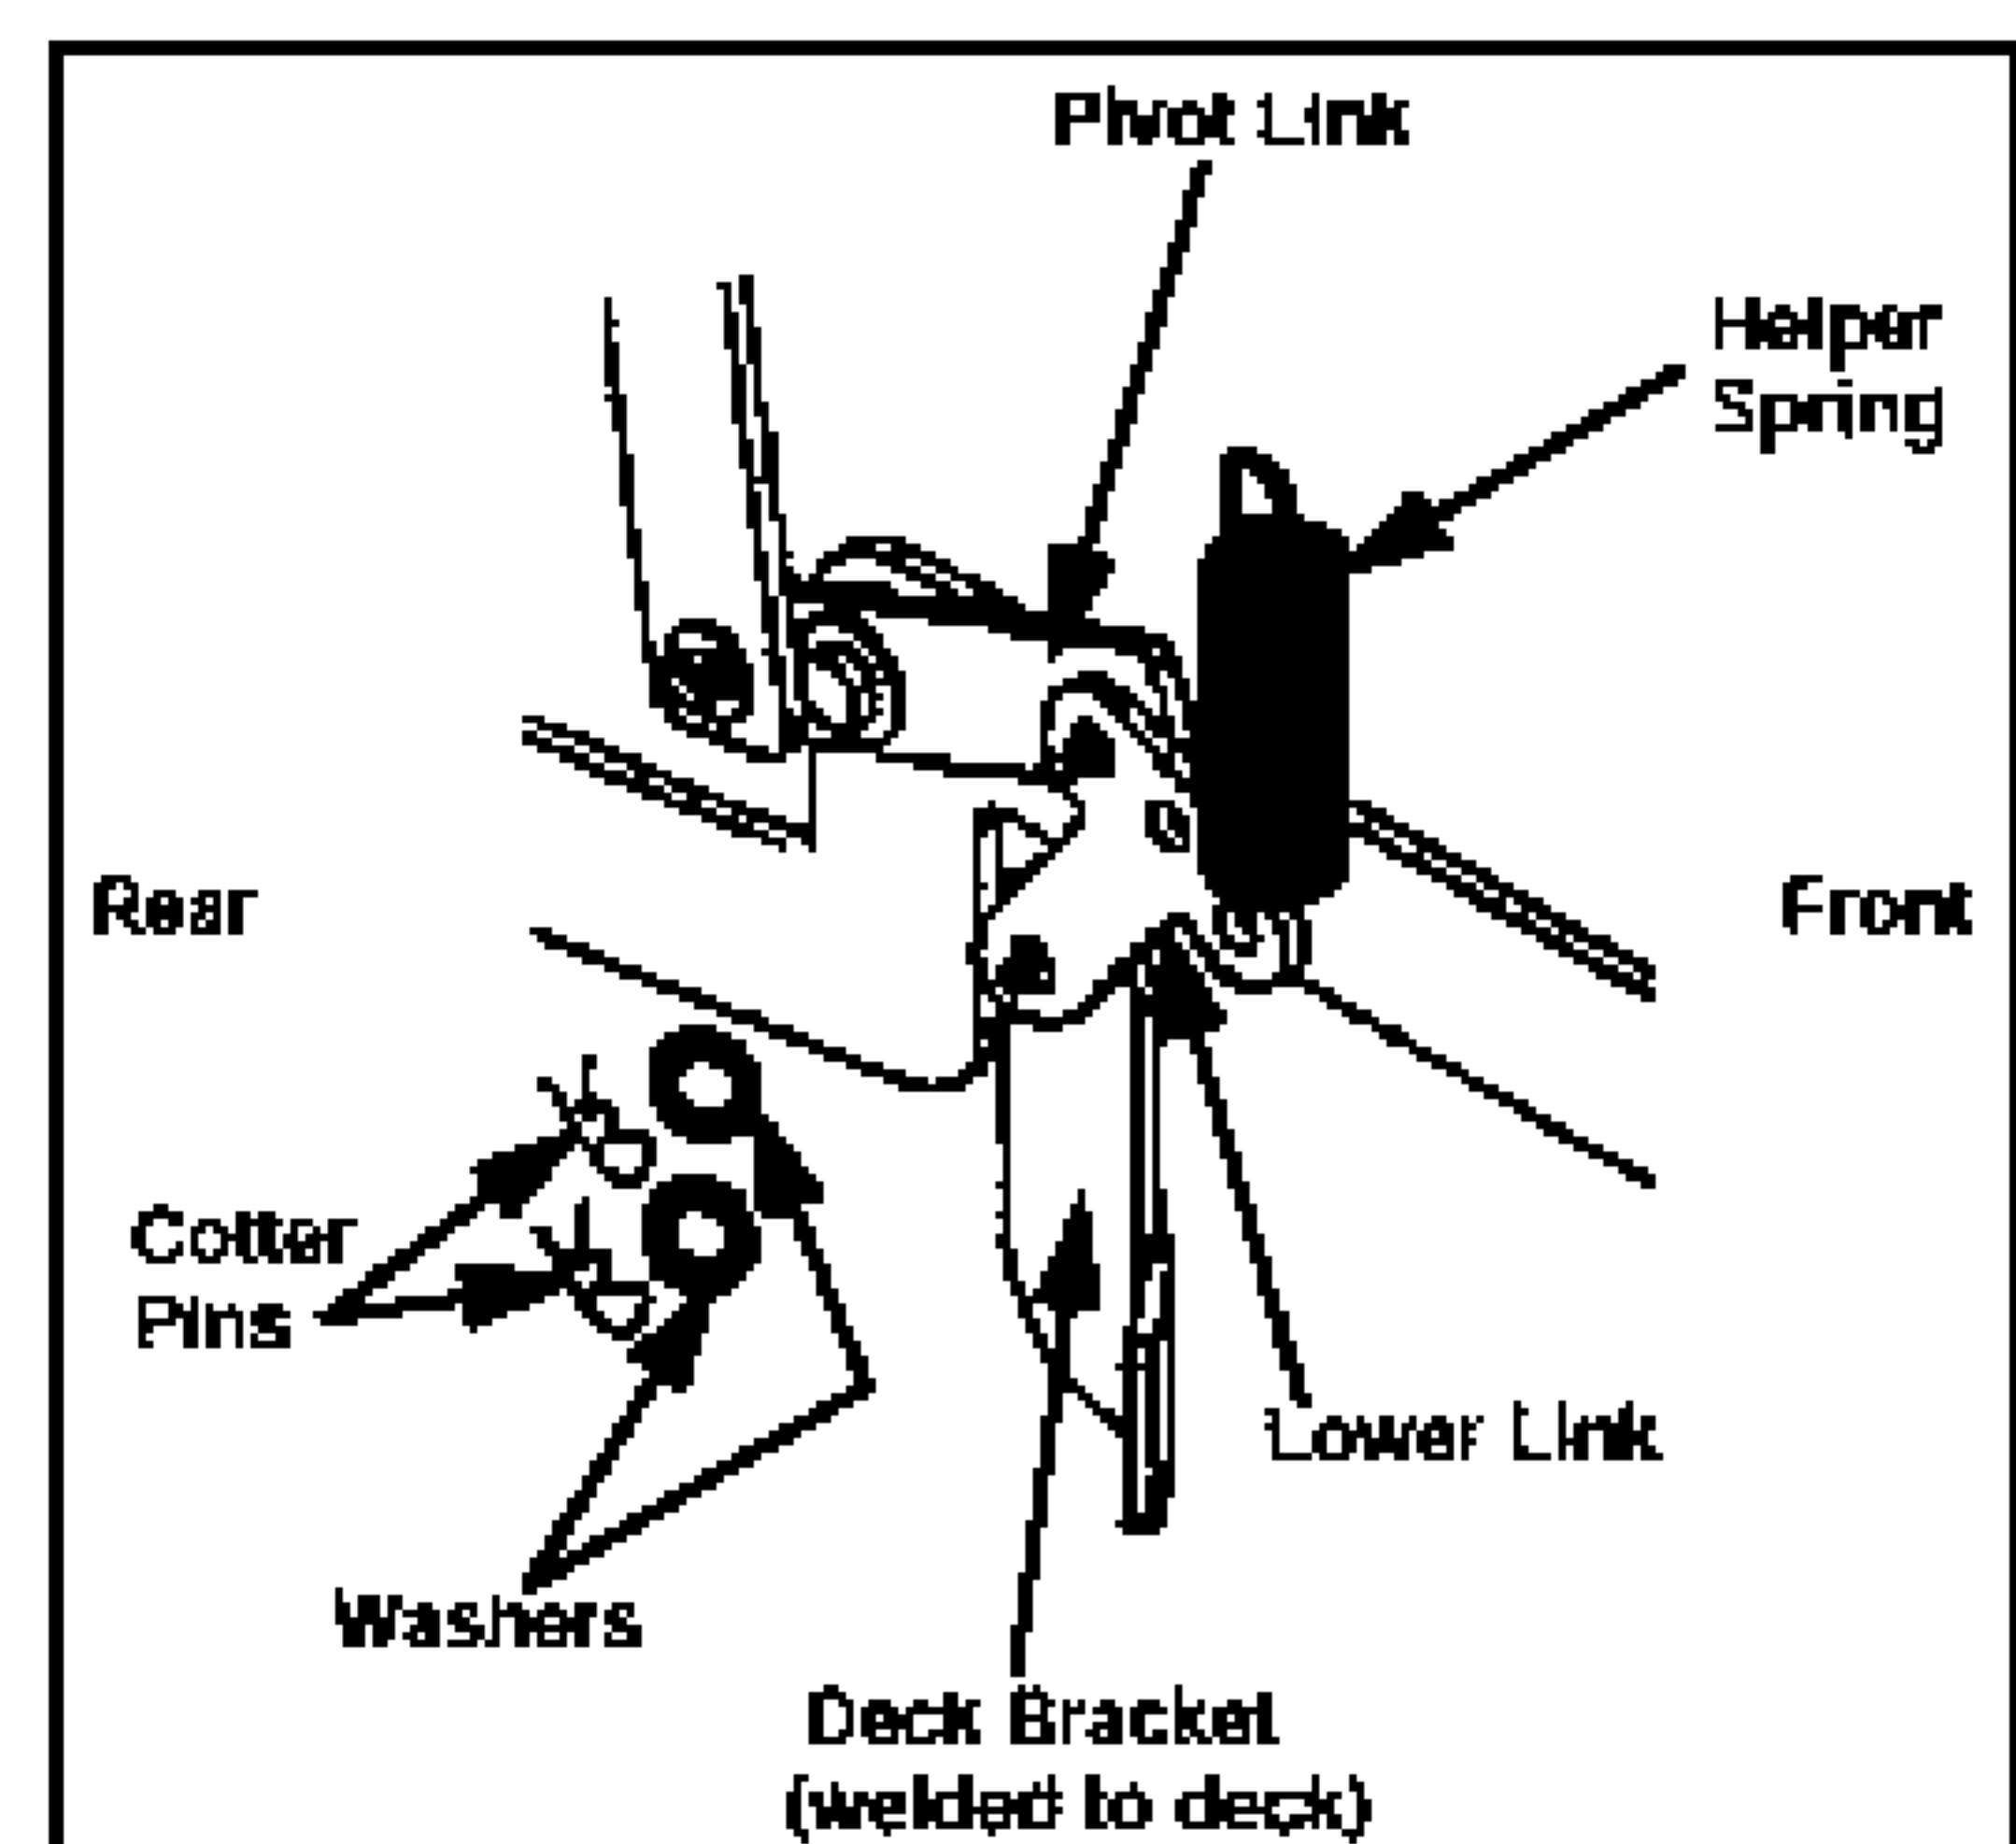
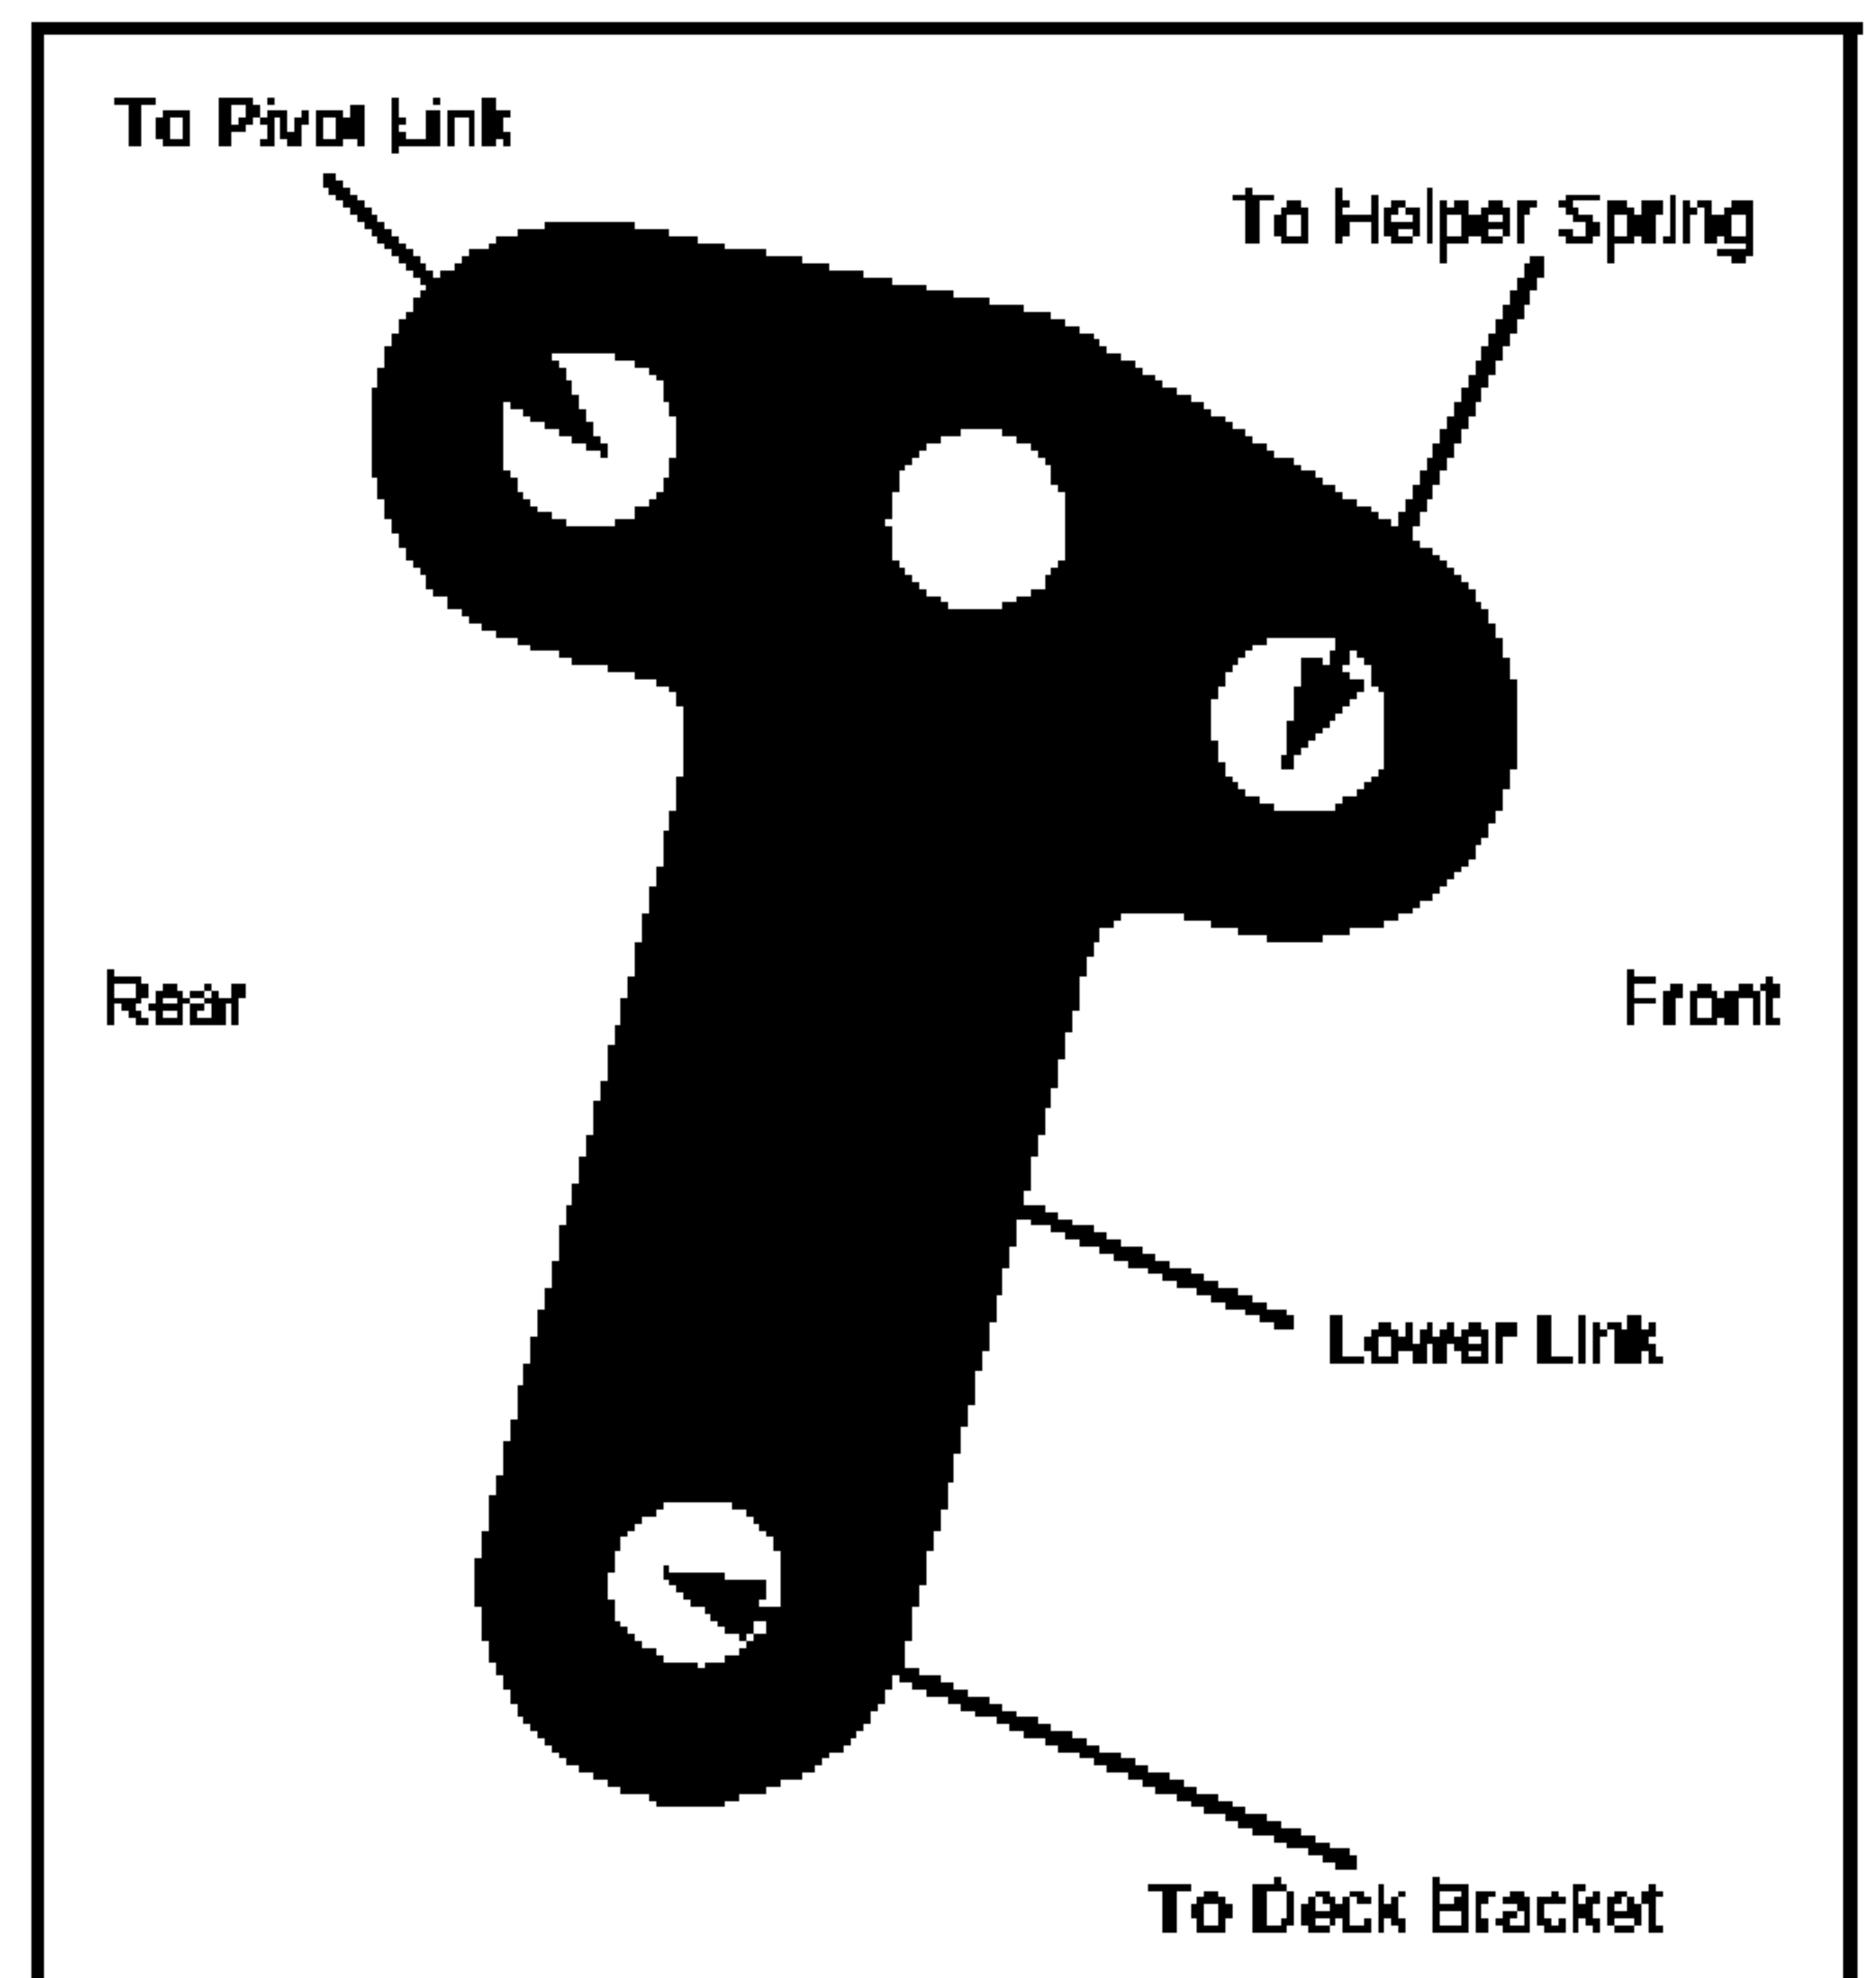

Figure 2
Figure 3
3. Locate the **lower links** at the rear of the deck. Working on one side at a time, disconnect the **helper springs** from them. See Figure 2.
4. Remove each **lower link** by removing both **cotter pins** and **washers**. See Figure 2.
5. Compare each **lower link** to the one shown in Figure 3. Reattach the them as shown in Figure 2; oriented as shown in Figure 3.